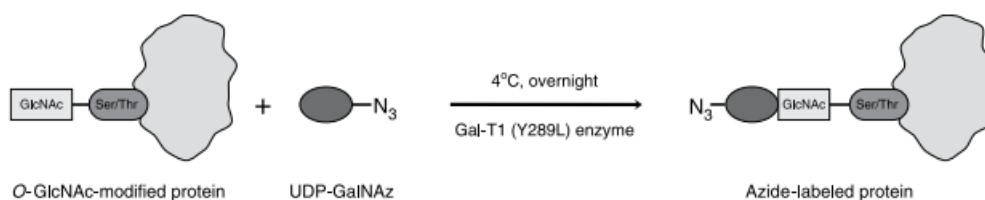
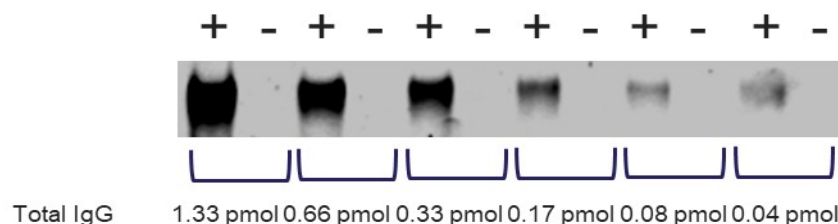

Figure 2 Enzymatic labeling of an O-GlcNAc-modified protein with UDP-GalNAz and Gal-T1 (Y289L)
Figure 3 Dilution series of Goat anti-mouse IgG labeled with the Click-iT™ O-GlcNAc Enzymatic Labeling System
- Proteins are enzymatically labeled using the permissive mutant β -1,4-galactosyltransferase (Gal-T1 (Y289L)) (figure 2), which transfers azido-modified galactose (GalNAz) from UDP-GalNAz to O-GlcNAc residues on the target proteins.
- Target proteins can then be detected using one of the Click-iT™ Protein Analysis Detection Kits listed in Table 2, which are compatible with downstream mass spectrometry (MS) analyses including LC-MS/MS and MALDI MS, and Invitrogen™'s Multiplexed Proteomics™ technologies (Table 2).
- The labeling and detection process can be accomplished in under 24 hours and is highly sensitive, detecting as little as 0.04 pmole IgG, proteins which contain 0–4 available terminal GlcNAc (figure 3).